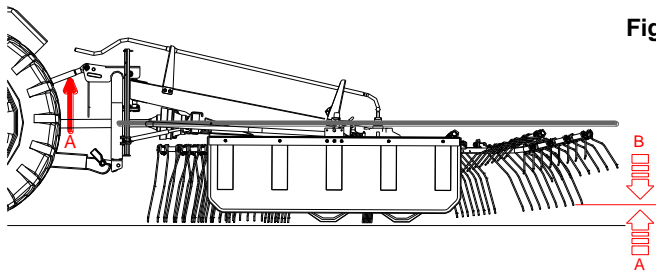

Fig.23
- **Mounted type (fig.23):** to lower the tines and so reduce their distance from the ground, rotate counter-clockwise the appropriate handle (**B**), located nearby the third section, as indicated in the figure. If they touch the ground, they must be lifted by using the tractor hydraulic lift (**A**), activated by the appropriate lever located inside the cabin. **Note:** in theory, to lift the tines from the ground, the handle should rotate clockwise, but in practice, the weight of the rotary unit with arms does not allow this operation. Therefore, use the hydraulic lift.